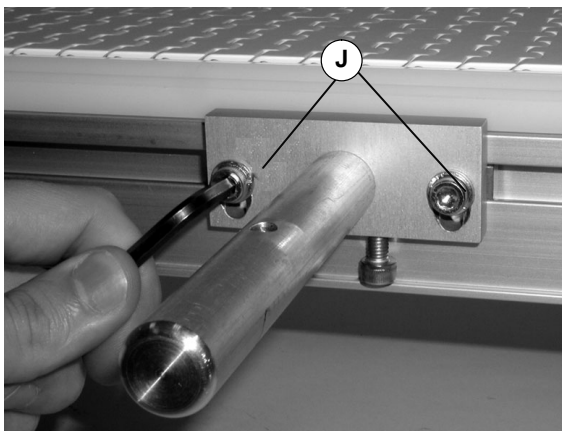

Figure 7
6. Once support bars are spaced evenly, tighten screws (J of Figure 7) snugly with 5 mm hex wrench.